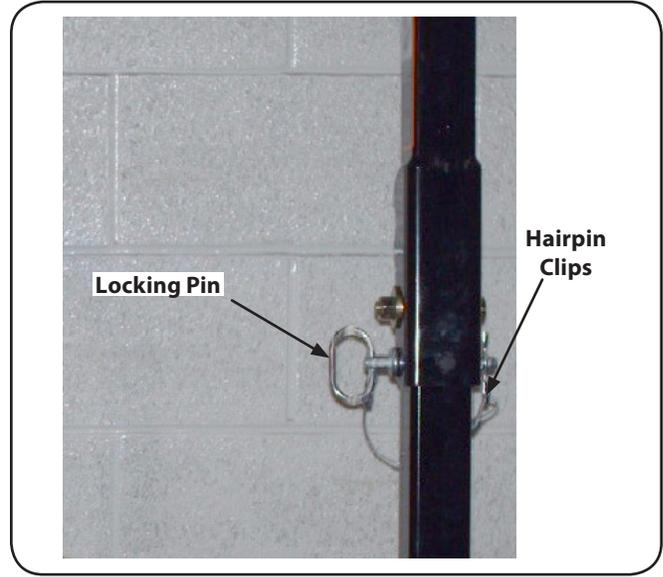

Figure 3-5
- Move the upper ROPS section to the upright position, and insert the locking pins with their retainer hairpin clips. See Fig. 3-5.